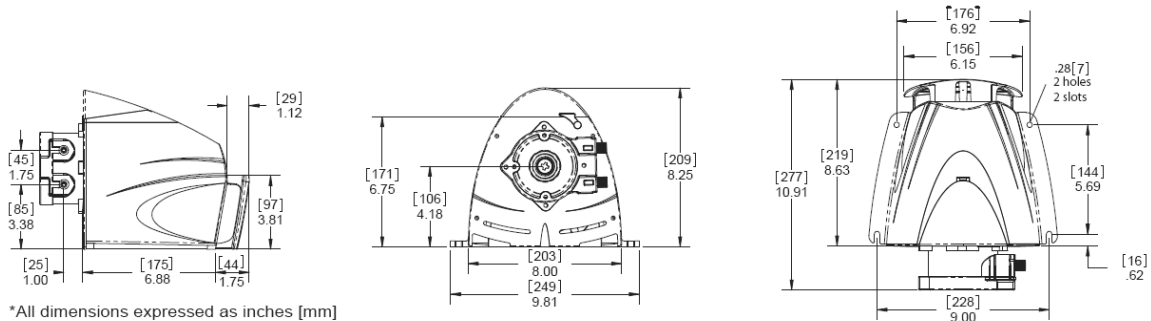
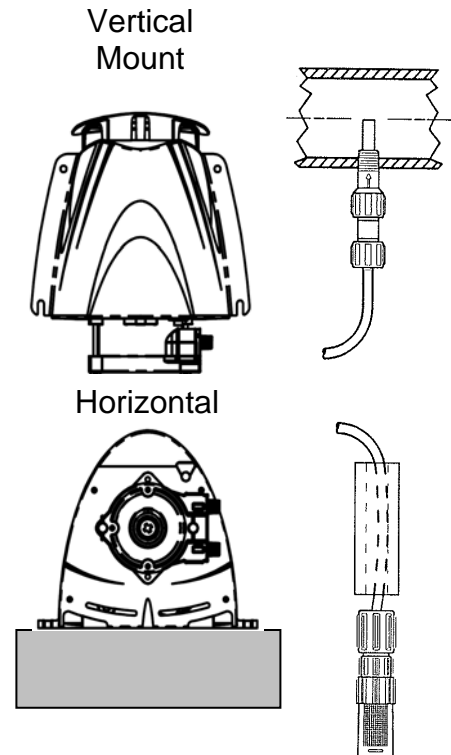

Figure 1: Pump Dimensions
Figure 2: Injector Placement
Figure 1 provides a quick reference for installation dimensional requirements.
1) The pump can be installed either vertically or horizontally (See Figure 2). Make sure to secure the pump on a flat level surface that will support 50-lbs (22kg) and secure with four .25-in (6mm) screws in the holes provided. The guard snaps into the back of the pump via three tangs -- see Figure 1. The pump should be mounted with no less than 1.75-in (44mm) of clearance around the venting on both the front and the rear of the pump. Locate the pump so there is direct access to the power cord plug.
3) Relieve the system pressure and drain the piping run where the injection fitting is to be installed. See Figure 2 for reference. **The injection fitting must not be installed in a dead end pipe or a deeply recessed tee. It should be installed so as to place the tip at the center of the fluid stream as indicated in Figure 2.** The injection fitting is supplied with .25-in NPT threads. If necessary drill a .44-in (11mm) diameter hole and using care not to tap too deeply, tap for .25-in NPT.